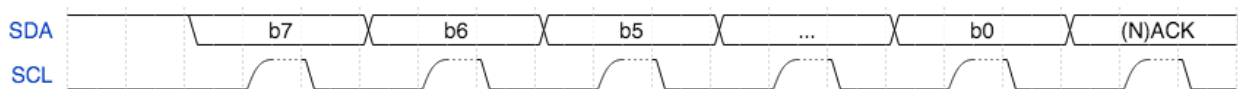

Figure 4: I²C write byte
If the read/write bit of the transaction start is 0 then the master will execute a sequence of writes. Each write consists of the master driving the clock whilst and also driving the data for 8-bits (most significant bit first). At the end of each byte, the master drives another clock pulse and the slave will either drive either an ACK (0) (signalling that it can accept more data) or a NACK (1) (signalling that it cannot accept more data) on the data line. After the ACK/NACK signal, the master can complete the transaction with a stop bit or repeated start. A write byte sequence is show in Figure 4